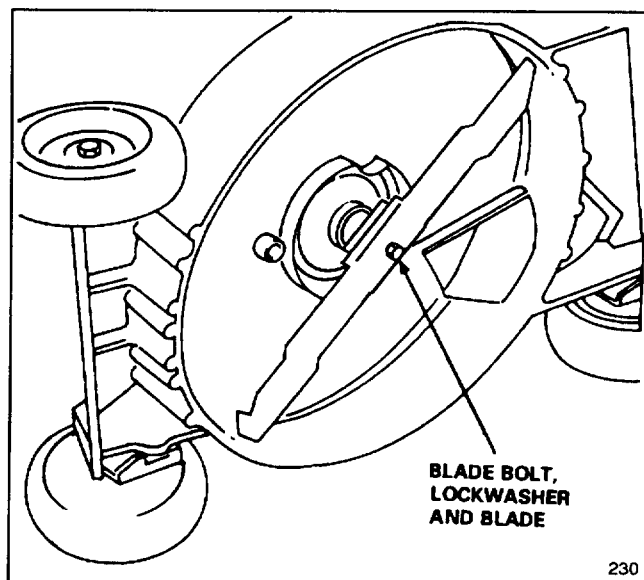

Figure 23
3. Tip mower on its right side (Fig. 23). Avoid rotating blade as starting problems may result.
5. **REMOVING BLADE**—Grasp end of blade using a rag or thickly padded glove. Remove blade bolt, lockwasher, and blade (Fig. 23).